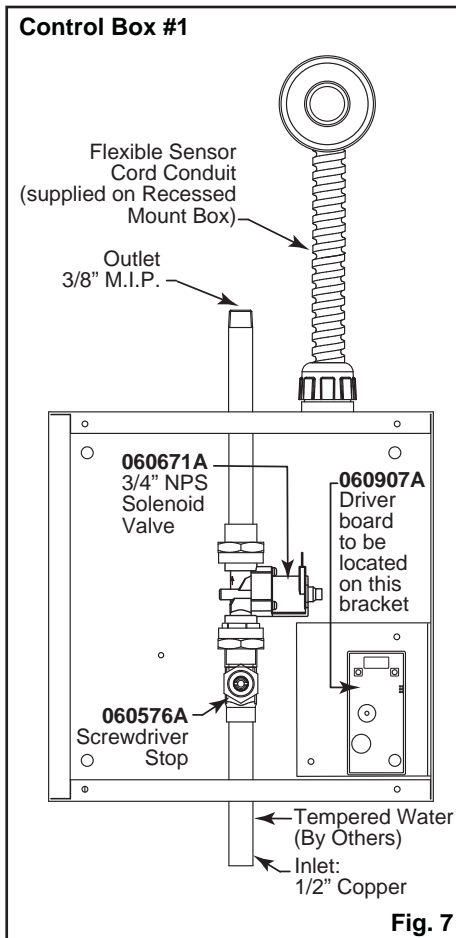
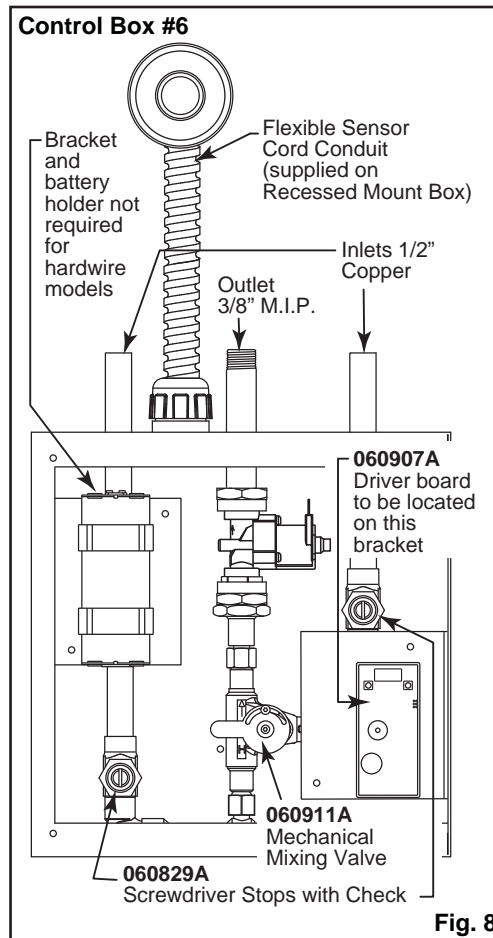
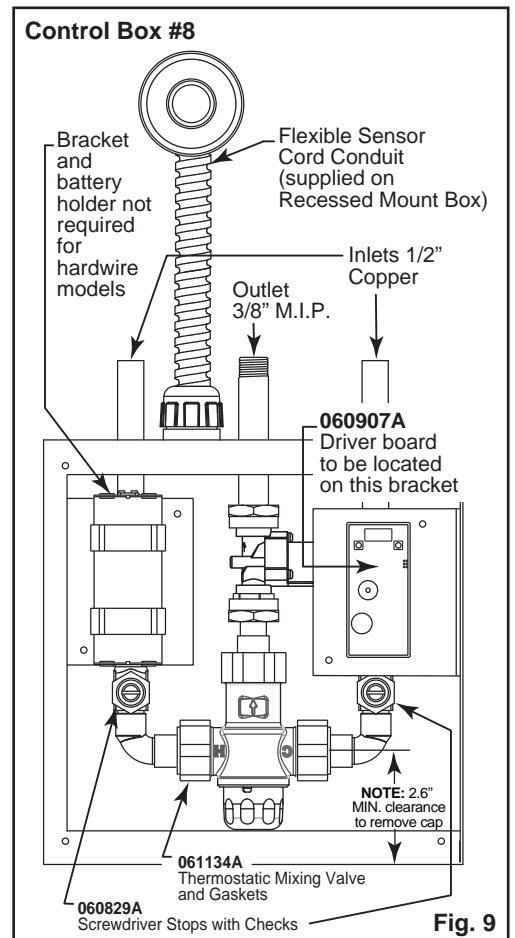
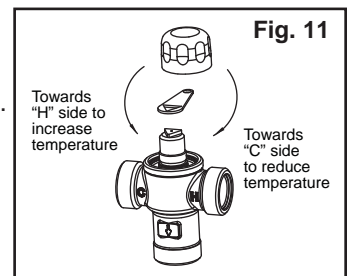

Fig. 7
Fig. 8
Fig. 9
Fig. 11
Install sink and connect drainage to rough in. See applicable **Fig. 7, Fig. 8** or **Fig. 9**. Please note that the connection tube and fittings are supplied by the **installer** to connect the 3/8" MIP at the box outlet and compression joint for 3/8" O.D. Soft copper tube at the spout. Connect water supply through to spout. Assure supply lines are completely flushed and free of debris.
- 4C** If **Mechanical Mixing Valve (060911A) (Fig. 8)** Adjust setting to the desired temperature and lock in place by tightening the vandal resistant screw.
If **Thermostatic Mixing Valve (Fig. 9)** To adjust the mixed outlet temperature of the valve, remove the cap to gain access to the adjusting spindle. The spindle should be rotated towards the "C" side to reduce the temperature and towards the "H" side to increase the temperature - until the desired set point is reached (refer to Fig. 11).